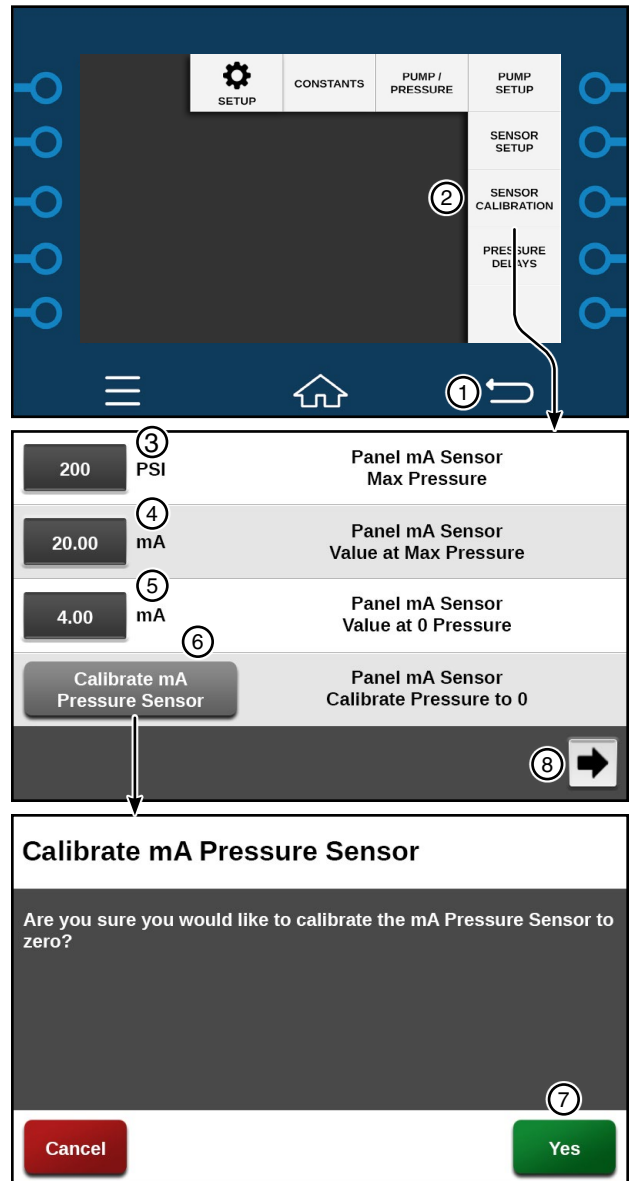

Figure 39-1
3. Calibrate Pressure Sensors. See Figure 39-1.